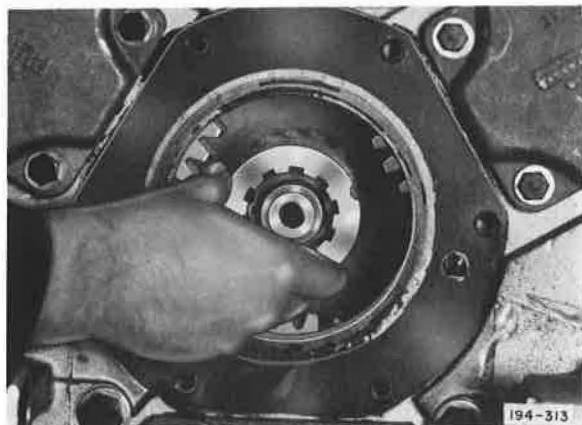

Figure 5-50. Installing Fourth Speed Gear Thrust Washer
17. Install fourth speed gear thrust washer on mainshaft. See Figure 5-50.